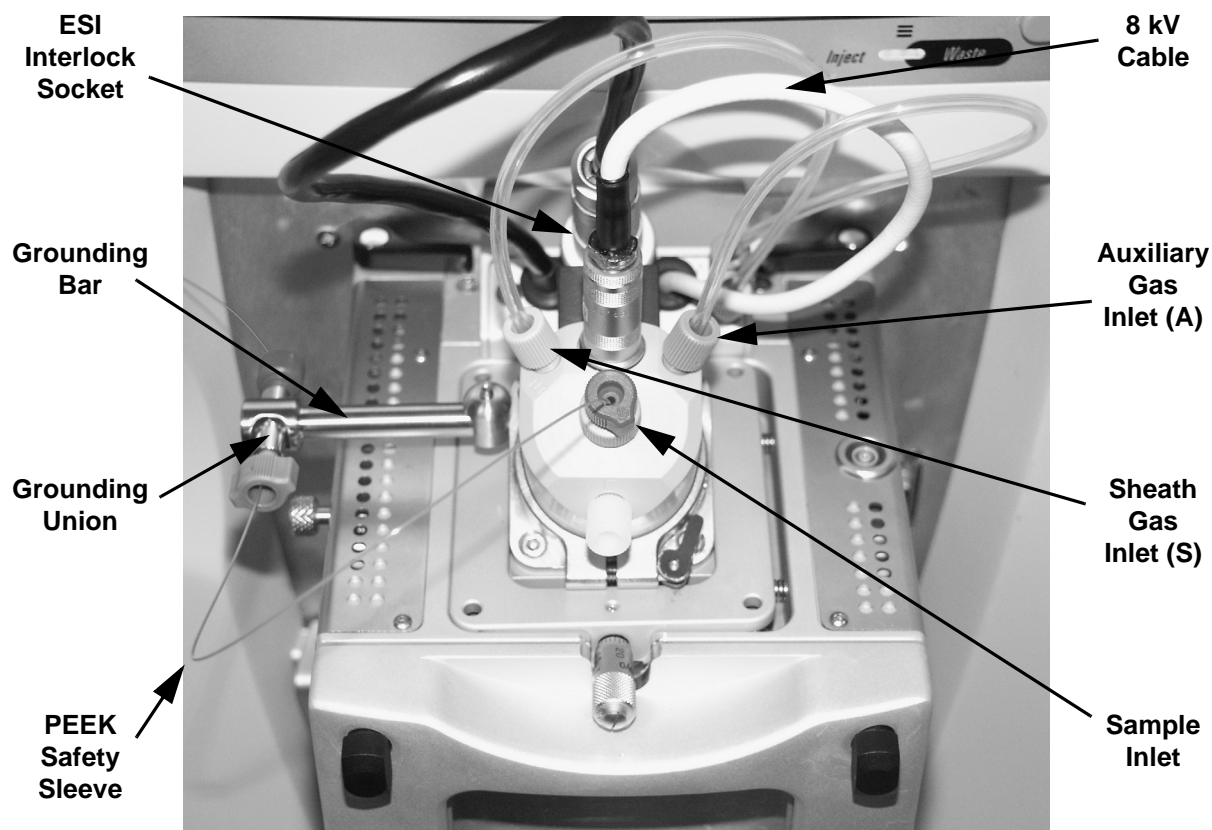

Figure 2-11. Ion Max ion source housing with ESI probe installed
8. Insert the stainless steel ZDV fitting (grounding union) into the grounding bar on the ion source housing. See Figure 2-11.
9. Connect the sheath gas fitting (blue) to the sheath gas inlet (S) on the probe. (See Figure 2-11.)
10. Connect the auxiliary gas fitting (green) to the auxiliary gas inlet (A) on the probe. (Figure 2-11.)